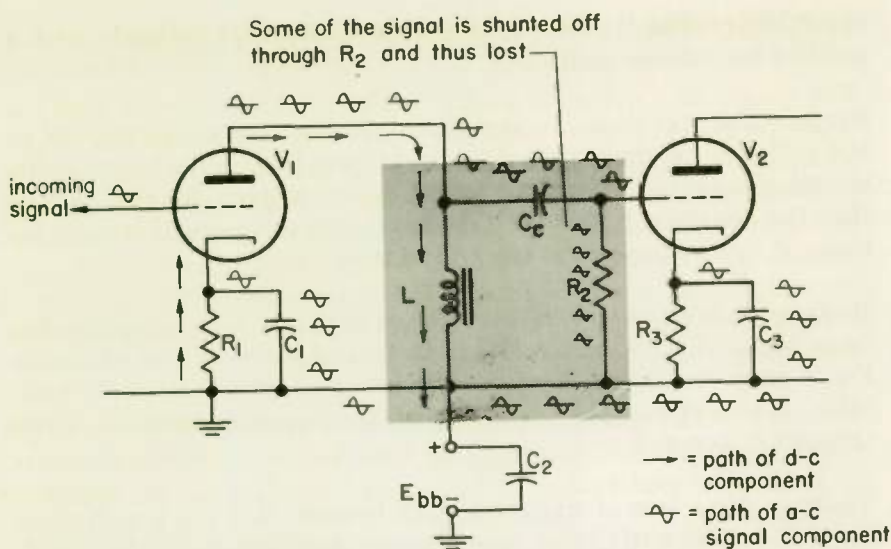
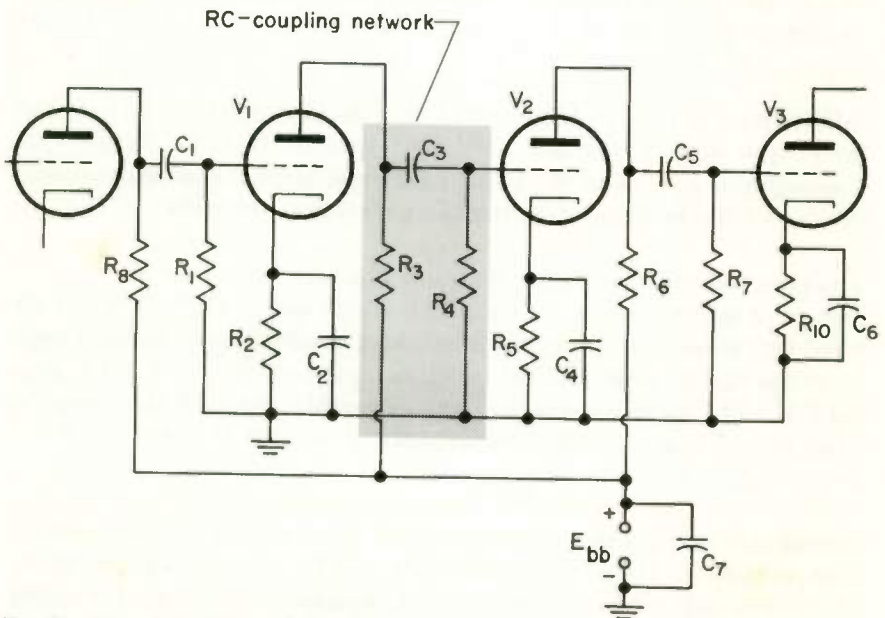

Fig. 3 Impedance coupling.
Fig. 4 Two-stage RC-coupled amplifier.
3 IMPEDANCE COUPLING ... In Fig. 3 the signal is transferred from the output of V_1 to the grid of V_2 by means of the coupling network consisting of L , C_c , and R_2 . It is called impedance coupling because of the use of the inductor L in the plate circuit of the tube.
The operation of the circuit shown in Fig. 3 is largely familiar to you from a preceding lesson, but it will be reviewed here. The signal applied to the grid of V_1 is amplified, and the amplified signal passes from the plate circuit of V_1 through capacitor C_c to excite the grid of tube V_2 . The signal, being a-c, passes readily through the coupling capacitor C_c but is blocked by inductor L , so that the only path it is free to follow is the one to the grid.
Resistor R_2 is necessary, but it reduces the gain of the amplifier because some of the signal voltage will be lost through it as shown in Fig. 3, thus weakening the signal. By using a high value for R_2 (typically, 1 megohm), the weakening of the signal because of losses through R_2 is small.
4 **RC COUPLING** . . . The coupling network of Fig. 4 is the same as the impedance coupling network of Fig. 3, except that resistor R_3 has been substituted for the choke L . This method of coupling is known as *resistance coupling*, or as *RC coupling*.
Since R_3 of Fig. 4, like L of Fig. 3, offers a high impedance to the a-c signal, the principles of operation of the two coupling methods are identical. Unfortunately, however, R_3 also offers a high impedance to the d-c current that must be furnished by the power supply E_{bb} through this resistor to the plate of V_1 . The voltage of E_{bb} must be much higher than required for impedance coupling in order to make up for the d-c voltage drop across R_3 .
1. In Fig. 4, d-c plate voltage is kept out of the grid circuit of the following stage by (a) blocking capacitors _____, _____, and _____. (b) The bypass capacitors that keep the a-c signal out of the cathode bias resistors are _____, _____, and _____. (c) The signal coupling capacitors are _____, _____, and _____.
2. In Fig. 4, (a) resistor R_2 develops the _____ _____ for V_1 and (b) resistor _____ serves a similar function for V_2 . (c) The purpose of R_1 is to _____, and (d) resistors _____ and _____ serve a similar function. (e) The signal is forced from the plate of V_2 through C_5 to the grid of V_3 by the blocking action of _____, and (f) resistors _____ and _____ serve a similar function.
3. In Fig. 4, (a) before signal is applied, the grid potentials of V_1 and V_2 with respect to ground are _____ volts and _____ volts. (b) The grid biases (that is, the grid potentials with respect to cathodes) are (*negative*) (*positive*) (*zero*).
4. (a) In Fig. 4, if capacitor C_3 becomes shorted, what effect will this have on the circuit? (b) There is some signal loss in C_3 , because its reactance is not zero. If the value of C_3 is reduced, what effect will be noted? (c) This effect will be greater at (*high*) (*low*) frequencies. (d) If the value of C_3 is increased, what effect will be noted?
5. In Fig. 4, (a) trace the path for the d-c component of plate current for tube V_2 and (b) trace the path for the a-c signal component of plate current.
The coupling network between tubes is the same as shown in Fig. 4. However, because of the higher internal resistance of the pentode, higher values are used for the plate and grid resistors. Plate resistors as high as 0.47 megohm and grid resistors as high as several megohms are used.
5. If E_{bb} in Fig. 3 is 90 volts, the approximate value for the d-c plate potential of V_1 is _____ volts.
Notice the similarity between this circuit and the equivalent vacuum-tube circuit of Fig. 4. Remembering that the collector in a transistor corresponds to the plate of a tube, the base corresponds to the grid, and the emitter corresponds to the cathode, the connections and components in the two circuits are the same, except for the addition of R_2 and R_6 in the transistor circuit. However, the component values in a transistor amplifier are much different than the corresponding tube components. This is because transistors require much different values of current and voltage for proper operation than tubes require.